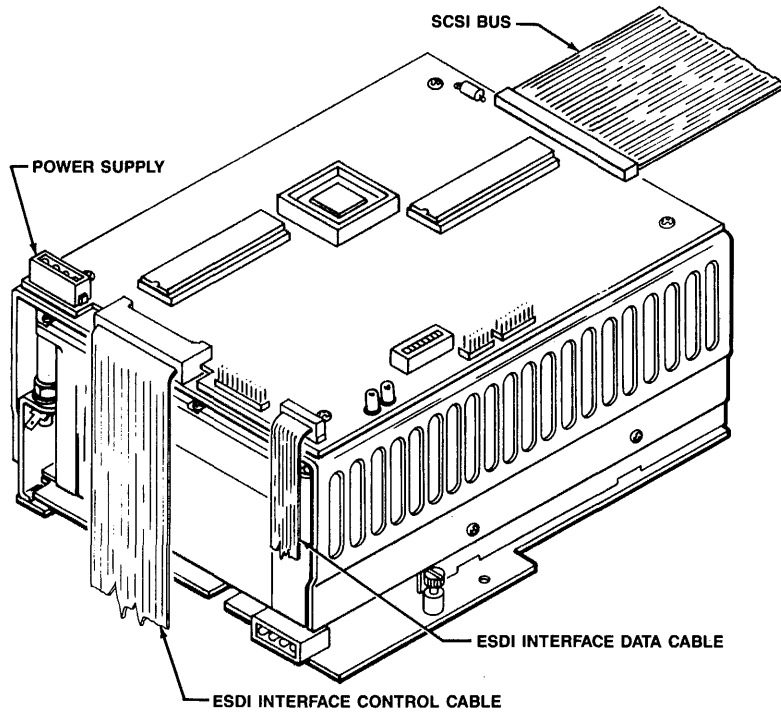

Figure 5-7. Connecting the Disk Drive Data and Control Cables and the SCSI bus to the MD21 Controller
4. Connect the control cable from the disk drive to connector J1 on MD21 Controller. See Figure 5-7.
5. Connect the data cable(s) from the disk drive to connectors J2 and/or J3 on the MD21 Controller. See Figure 5-7.
6. Connect the cable from the power supply to power connector J7 on MD21. See Figure 5-7.
7. Connect the SCSI bus cable to SCSI bus connector J6 on MD21 Controller. See Figure 5-7.
Note that Figure 5-7 shows a SCSI flat-ribbon cable that is used to internally connect the MD21 Controller with a SCSI host adapter. If the MD21 Controller and SCSI host adapter reside in different cabinets, you must use a shielded SCSI cable to connect them to maintain FCC compliance (see subsection 5.5). For more information on shielded cable requirements, see subsection 7.2.1.2.